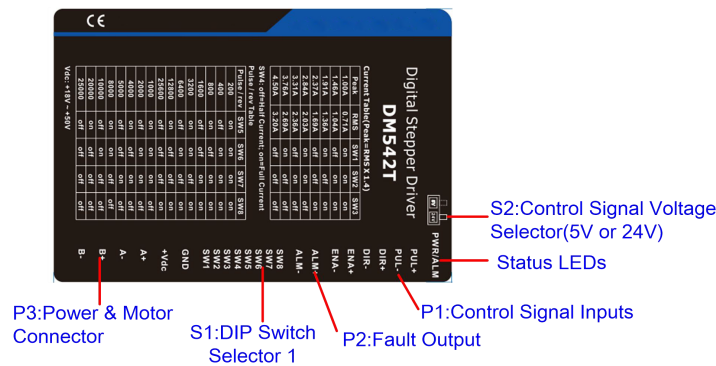

Figure 2 Connectors, DIP switches, and LED locations
PUL+	Pulse and Direction Connection: (1) Optically isolated, high level 4.5-5V or 24V, low voltage 0-0.5V (2) Maximum 200 KHz input frequency (3) The width of PUL signal is at least 2.5 μ s, duty cycle is recommended 50% (4) DIR signal requires advance PUL signal minimum 5 μ s in single pulse mode (5) The factory setting of control signal voltage is 24V, must need to set S2 (figure 2) if it is 5V
The DM542T(V4.0) can accept can accept differential or single-ended control signals (pulse, direction, and enable) in open-collector or PNP connection through the P1 connector (figure 2). It is recommend to add an EMI line filter between the power supply and the drive to increase noise immunity for the drive in interference environments.
- (1) ENA signal is no-connected as default;
- (2) Control signal amplitude is 24 V as default. If it is 12 V, please set the S2 (Figure 2) selector switch to 5 V first, then connect 1KΩ resistor; If it is 5V, please set the S2 to 5V.
The second 1-bit selector is located on the top (S2 in figure 2), used to configure the voltage of control signals. For the safety of optically coupled, the factory setting is 24V, which no need to connect 2K resistors like the old drives, making it easier to use. When the voltage of the control signal is 5V, the S2 must be set to 5V, otherwise, the motor won't work.